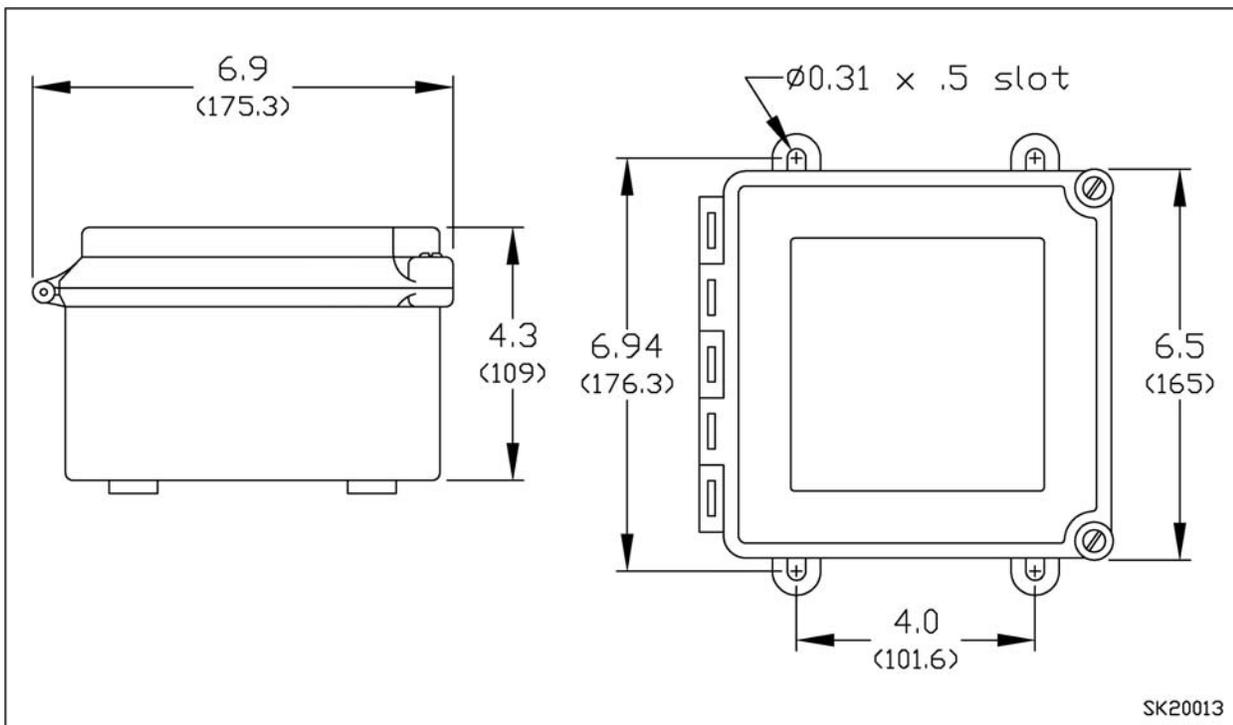

Figure 2. Remote Enclosure
Four (4) mounting holes are provided on the Model 2000 remote enclosure (See Figure 2).